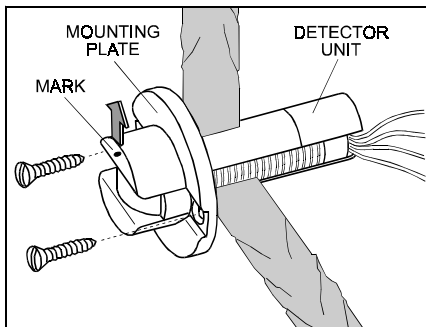

Figure 4. Model SPY 3 Installation
4. Prepare the mounting plate screw holes on a horizontal line, making sure that the mark on the front of the detector unit faces up (Fig. 4).
5. Holding the detector unit by the mounting plate, insert it, rear end first, into the hole, with the mark on the front facing up (Fig. 4).